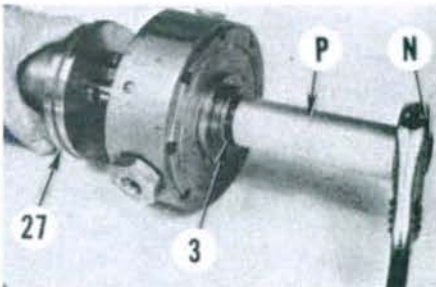

Fig. 14—A 25x110 mm (1x4-1/4 inch) piece of pipe (P) can be used together with steering wheel nut (N) to push snap ring (3) into groove.
Temporarily thread piston (27) and rack (32) onto shaft (31). Install lower snap ring (3), lower thrust bearing (8,9 and 10) and valve spool (18) onto shaft. The groove inside valve spool (18) must be towards top (steering wheel) end of shaft. Install centering springs (12) and plungers (11), then carefully install valve body (14). Install upper thrust bearing (10,9 and 8), shims (7), washers (6) and snap ring (3). The centering springs will make it difficult to install the snap ring into its groove, however, a 25x110 mm (1x4-1/4 inch) piece of pipe can be used as shown in Fig. 14 to push snap ring in-